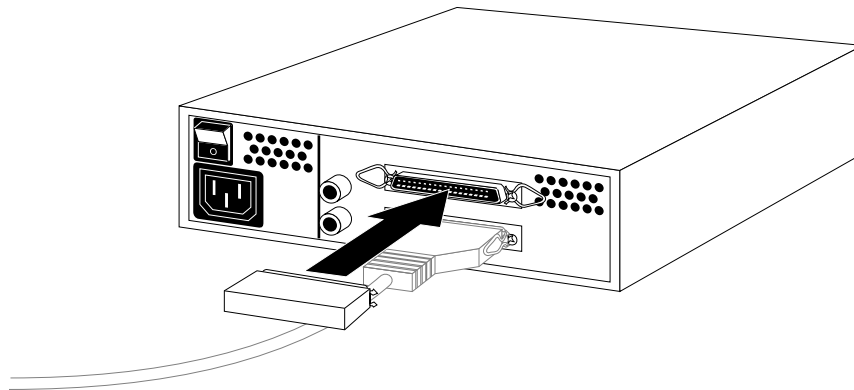

Figure 6-8 Connecting a Terminator to the Last SCSI Device on the Chain
5. Connect the active terminator that you received with the external SCSI device to the open SCSI connector on the back of the last device on the daisy-chain, as shown in Figure 6-8.